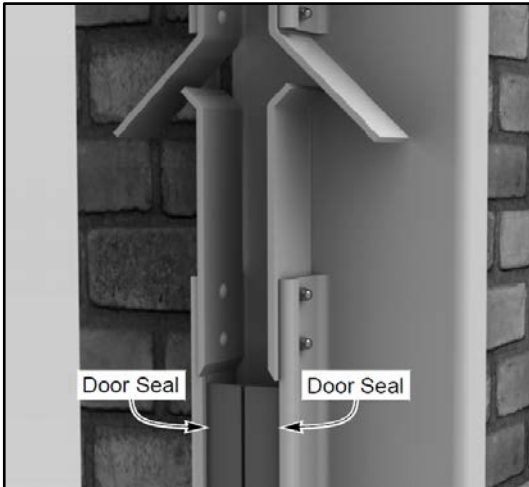

Figure 65
1. Inspect all four door seals on the side columns for wear and tear. Replace as necessary. (See Figure 65)